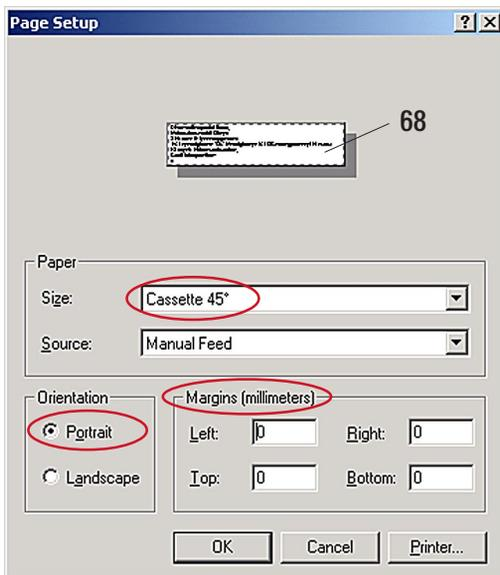

Fig. 36
1. First, the page settings must be selected: Click on **FILE** --> **PAGE SETUP** to open the Page Setup dialog box (Fig. 36).
2. In **MARGINS**, set all margins to “0 mm”; the print range (**68**) will change as shown in Fig. 36.